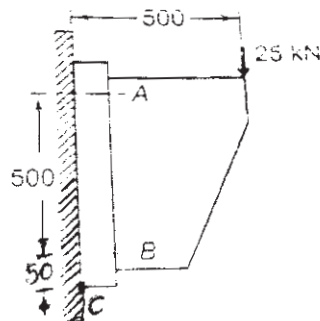

Figure 4. Wall bracket arrangement
- b) A wall bracket is attached to the wall by means of four identical bolts, two at A and two at B, as shown in Figure 4. Assuming that the bracket is held against the wall and prevented from tipping about the point C by all four bolts and using an allowable tensile stress in the bolts as  $35 \text{ N/mm}^2$ , determine the size of bolts on the basis of maximum principal stress theory. [10]